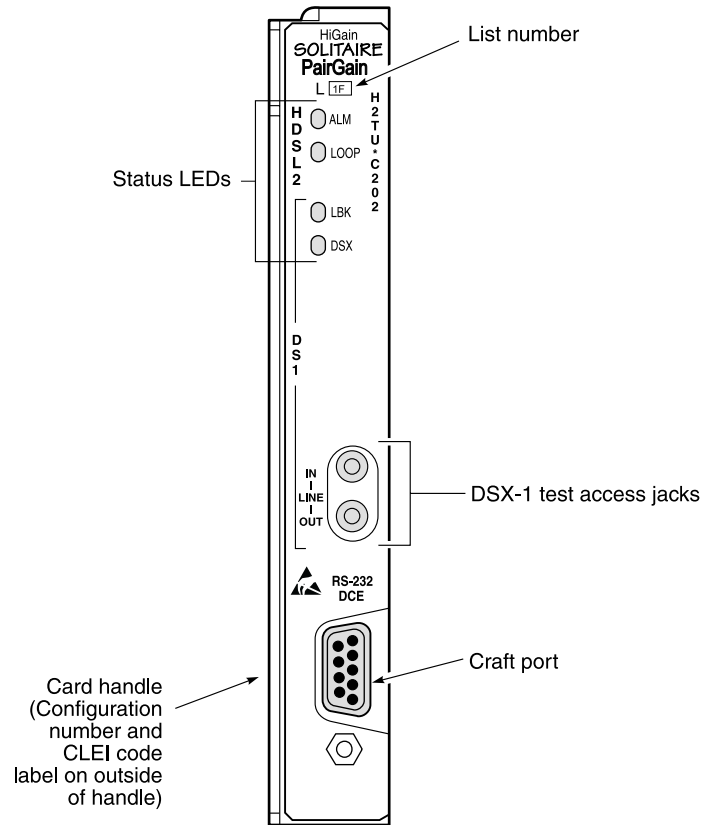

Figure 1. H2TU-C-202 List 1F Front Panel
Figure 1 shows the H2TU-C-202 List 1F front panel. Table 1 on page 4 describes the front-panel components. For pinout diagrams of the H2TU-C card-edge connector and craft port, refer to “Appendix A - Specifications” on page 51.
- 1 Connect a standard 9-pin terminal cable to the RS-232 craft port (Figure 1 on page 3) on the H2TU-C-202 front panel.